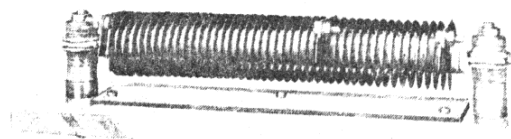

Fig. 6—Typical Type HM Resistor Unit and Mounting
1. TYPE HM RESISTOR—A Type HM Resistor unit consists essentially of an edgewound resistance element, a heat treated steel mounting bar and insulator support, and a set of refractory insulators. The connection and tap terminals are spot or tack welded directly to the resistance element. The refractory insulators are made of a material that will not shatter or break when subjected to mechanical and thermal shocks. All metal parts are either made of a material that is corrosion-resisting or are suitably protected against corrosion. The length of a resistor unit means the total or overall length of the mounting strap. For example, a 14 inch resistor unit is for mounting on studs or tie rods which are spaced 13 inches apart center to center. A typical resistor unit and its mounting are shown by Fig. 6.